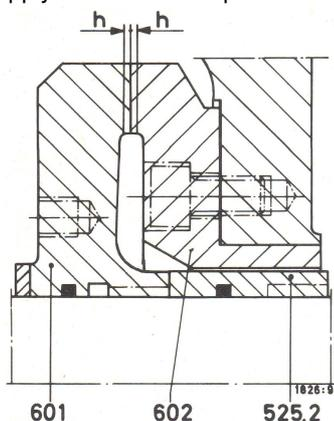

Figure 33 – Remachining the balance device
If the balance disc (601) touches the balance counter disc (602) remachine the faces on a lathe with arbours, this ensures the contact faces are then sufficiently true in relation to the bores. (Max. remachining  $2h = 2\text{ mm}$ , see fig. 33). Individual grooves can be allowed to remain.